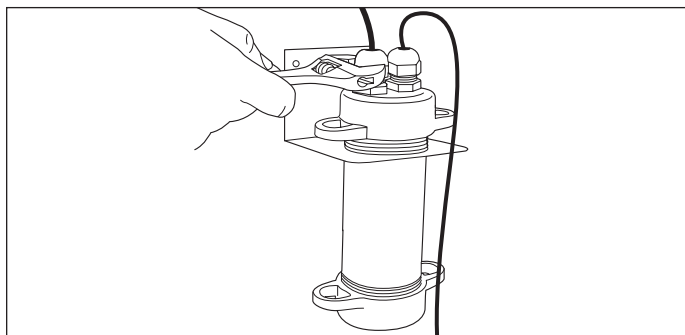

Figure 21-6
5. Install Secondary Monitoring Schrader Hose into the housing cap bulkhead fitting. Tighten both housing cap fittings (Figure 21-6).